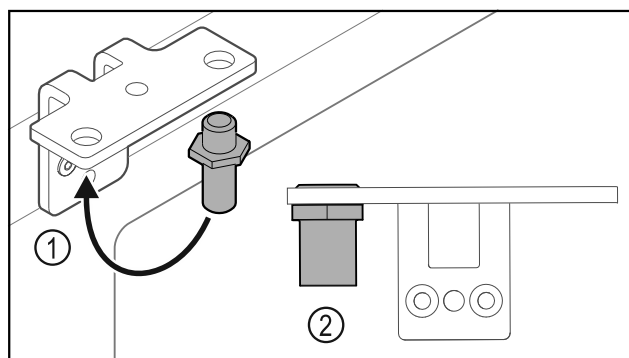

Fig. 34
- Put the pin back into the hinge Fig. 34 (1).
- Tighten the pin Fig. 34 (2) to a **torque of 12 Nm**.